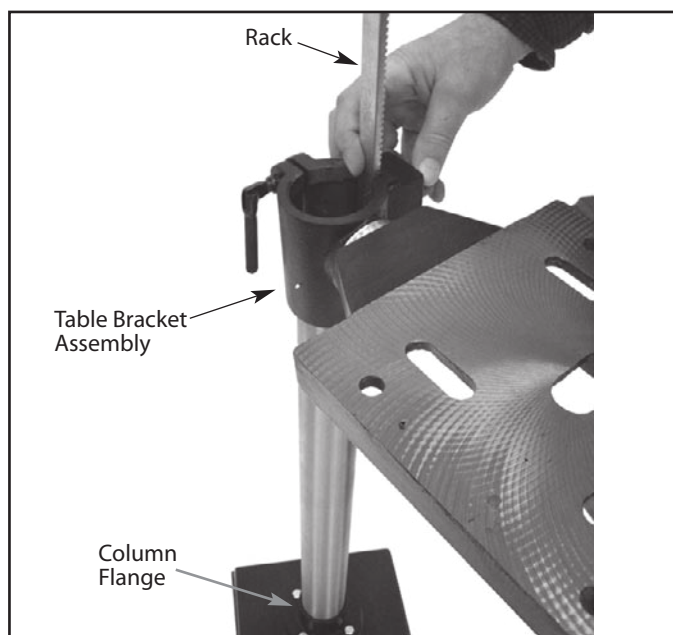

Figure 5 – Position Table Bracket Assembly on Column
Refer to Figures 5 and 6, page 5.
- Slide table bracket assembly with rack over column. Place bottom end of rack inside beveled edge of column flange. See Figure 5, page 5.